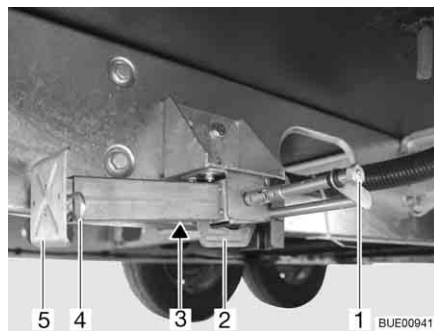

Fig. 28 Steady leg
- Place the socket spanner on the hexagonal nut (Fig. 28,1) and rotate until the steady leg is in a perpendicular downward position.
- If the length of the steady leg can be adjusted, remove the splint (Fig. 28,4) out of the support foot extension (Fig. 28,5).
- Place the socket spanner on the hexagon nut (Fig. 28,1) and rotate until the steady leg is clear of the ground.
- Push in the support foot extension (Fig. 28,5) and insert the splint (Fig. 28,4) in the drilled hole in the support foot extension.
- Rotate the hexagonal nut (Fig. 28,1) until the steady leg has swung upwards and the guide (Fig. 28,2) has reached the very end of the slot (Fig. 28,3).